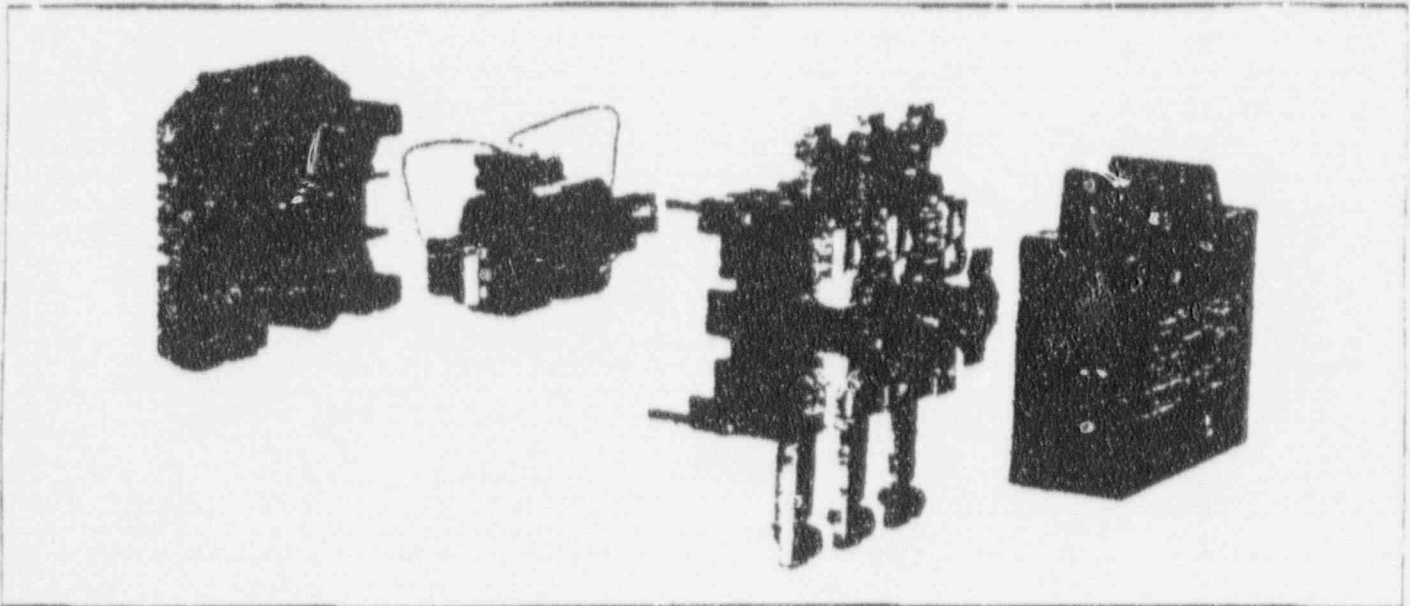

Fig. 4 250 Ampere DPCK Magnetic Contactor (Exploded View)
Refer to Figure 4. Loosen the four arc box cover screws (7) located immediately above and below the nameplate and remove the arc box (8). Contacts (5) are visible. Retighten the screws per Table III.